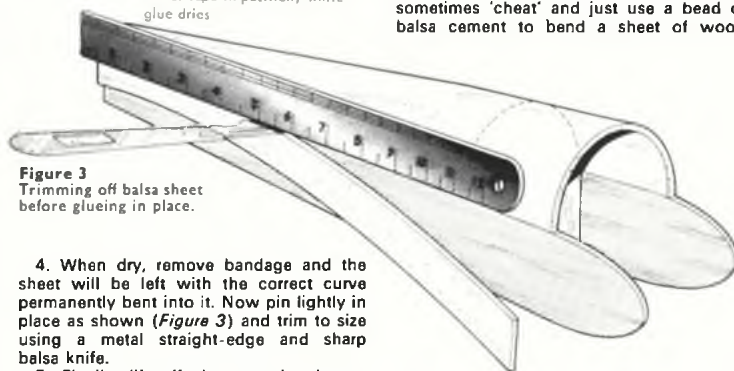

Figure 3
4. When dry, remove bandage and the sheet will be left with the correct curve permanently bent into it. Now pin tightly in place as shown (*Figure 3*) and trim to size using a metal straight-edge and sharp balsa knife.